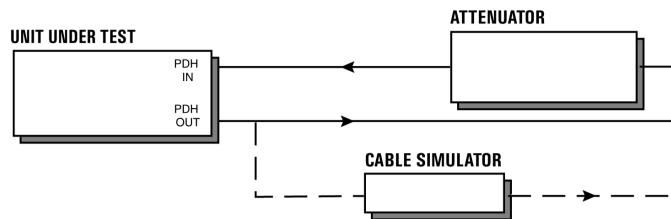

Figure 3-1
- 2 Connect the equipment as shown in Figure 3-1.